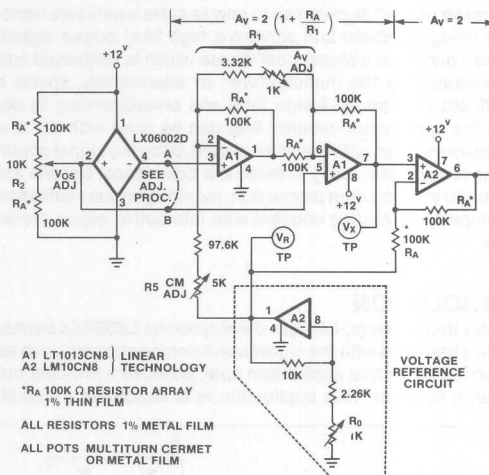

FIGURE 3
The final design, with circuit values, is shown in Figure 3. Although this design is for a single +12 volt supply, the circuit is capable of operating with a single supply from 5 volts to 15 volts with a total quiescent current drain of less than 5 mA over this supply range. Also, because there are seven 100K resistors, (denoted as R_A) a resistor array has been used. This provides excellent matching and tracking with temperature, as well as minimal cost and PC board space.
- (a) Short the bridge arms together at points A and B shown in Figure 3. Adjust R_5 , the common-mode rejection pot, until V_X , the voltage at pin 3 of A_2 , is equal to V_R , the voltage at pin 1 of A_2 . This is easily accomplished by placing a digital volt meter between these pins and adjusting for 0.000V. The reasoning behind this is found in Equation 3.